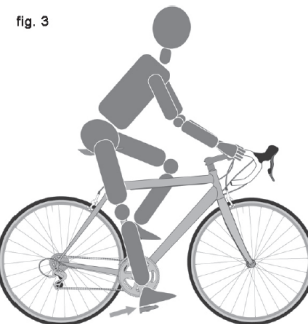

fig. 3
1. Up and down adjustment. To check for correct saddle height (fig. 3):